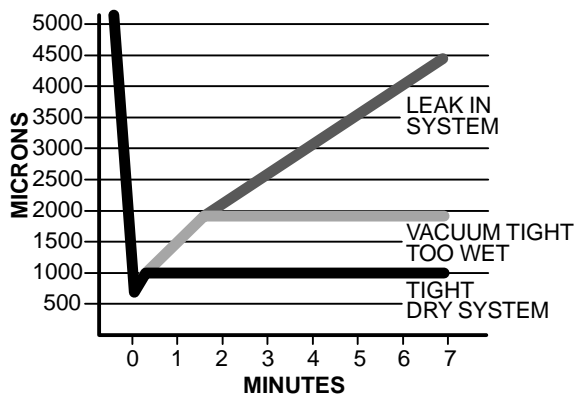

Fig. 23 – Deep Vacuum Graph
4. Connect the charge hose to the vacuum pump (see Fig. 23).
7. Evacuate using either the deep vacuum or the triple evacuation method (see Fig. 23 and 24).
The deep vacuum method requires a vacuum pump capable of pulling a vacuum of 500 microns and a vacuum gauge capable of accurately measuring this vacuum depth. The deep vacuum method is the most positive way of assuring a system is free of air and liquid water (see Fig. 23).